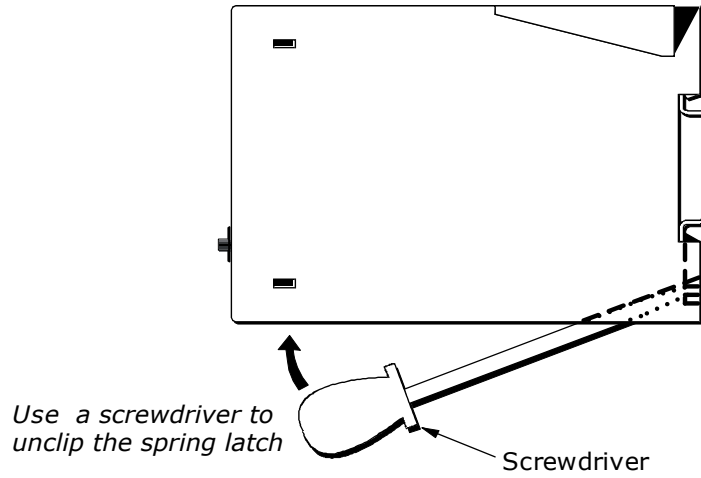

Fig. 4 Removing the LM Technic from a DIN rail
- 1) Refer to Fig. 4. Insert a screwdriver into the sliding spring catch via the slot on the underside of the unit.